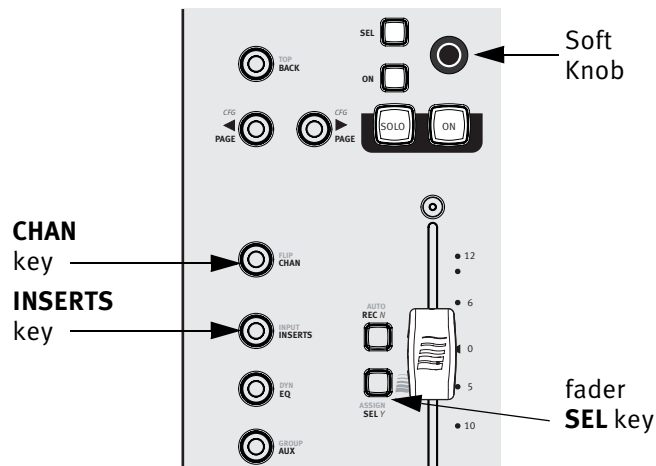

Figure 3-4 Fader strip, **INSERTS** and **CHAN** keys
3. Press the MC Mix’s strip 1 fader **SEL** key (Figure 3-4).
4. Press the **CHAN** key to enter channel mode (Figure 3-4).
5. Press the **INSERTS** key (Figure 3-4).
6. Press the Soft Knob (Figure 3-4) below the desired plug-in’s name to select it.
10. Press the **CHAN** key to exit channel mode (Figure 3-4).